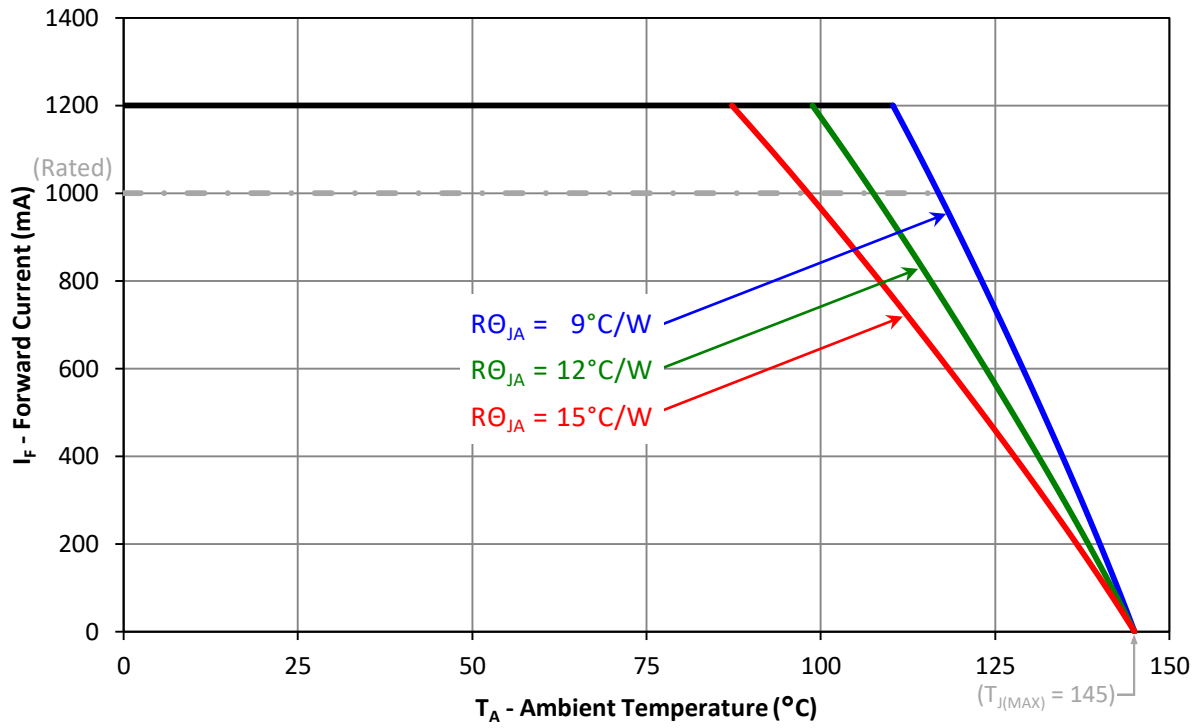

Figure 11: Maximum forward current vs. ambient temperature based on $T_{J(\text{MAX})} = 145^{\circ}\text{C}$.
- Maximum DC forward current is determined by the overall thermal resistance and ambient temperature. Follow the curves in Figure 11 for current derating.
Notes for Figure 11: